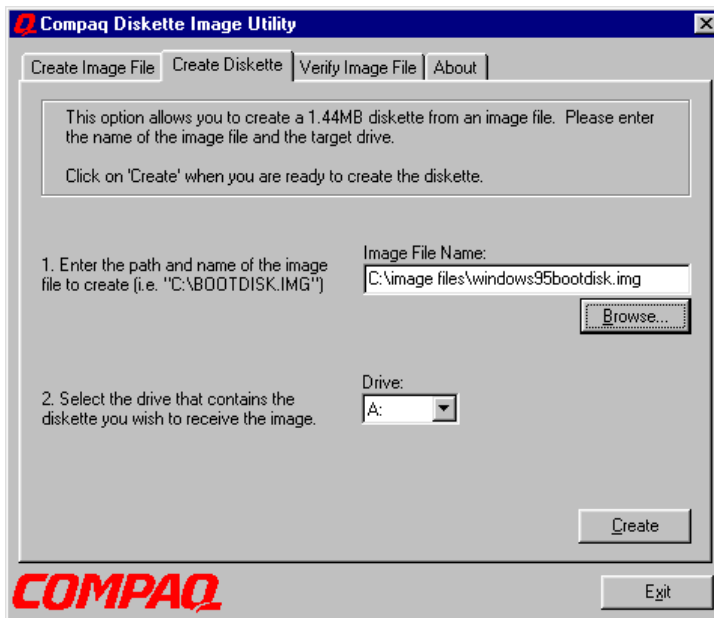

Figure 5-5: Create Diskette screen
3. Provide the location and name of the image file and the target diskette drive. You can navigate to the location of the image file by clicking **Browse**. Your screen should be similar to Figure 5-5.